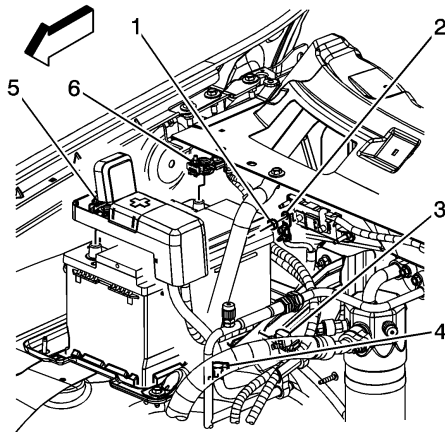

Fig. 1 Battery cable removal
4. Disconnect battery ground cable (6), **Fig. 1**.
5. Open starter solenoid cable cover at positive battery terminal, **Fig. 1**.
6. Loosen starter solenoid cable nut (5), **Fig. 1**.
5. Install starter solenoid cable nut (5), **Fig. 1**. **Torque** nut to 44 inch lbs.
7. Install battery ground cable (6) to battery terminal, **Fig. 1**. **Torque** nut to 44 inch lbs.
4. Disconnect primary battery ground cable (6), **Fig. 1**.
10. Install primary battery ground cable (6) to battery terminal, **Fig. 1**. **Torque** nut to 44 inch lbs.